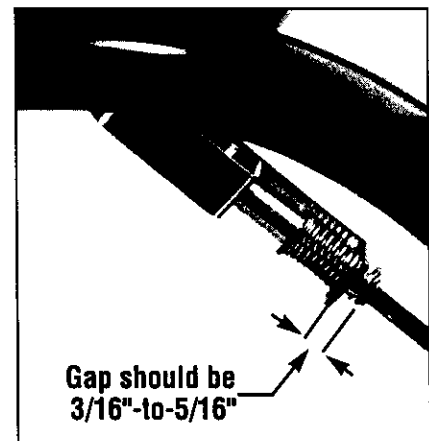

Figure 2-8: While squeezing Forward Clutch paddle, measure gap between end of bracket and E-ring.
- (b) While squeezing the paddle, measure the gap between the E-ring and the lower end of the clutch rod bracket (see Figure 2-8). The gap should be 3/16"-to-5/16". **NOTE:** A stack of 5 pennies is approximately 5/16" thick.
- (1) First check that the Forward Clutch rod is in the correct hole in the clutch swivel plate. If not, reposition the rod and repeat Step 5b.
- (2) If the Forward Clutch rod is in the correct hole and the gap is incorrect, you will need to adjust the length of the Forward Clutch rod. To do this, first release the Forward Clutch paddle and then disconnect the rod from the clutch swivel plate (remove hairpin cotter at end of rod and pull rod out of hole in clutch swivel plate).